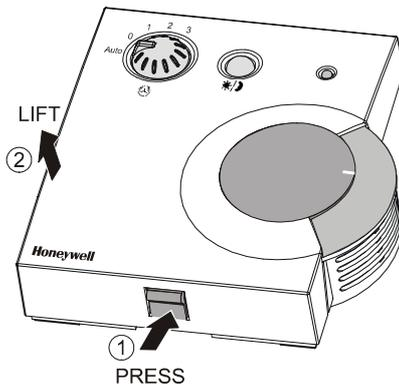

Fig. 1. Cover disassembly.
The cover of the wall module is fixed in place using a tab located on the underside of the unit; to disassemble the cover and the subbase, see Fig. 1.
1. Disassemble the cover as is shown in Fig. 1.